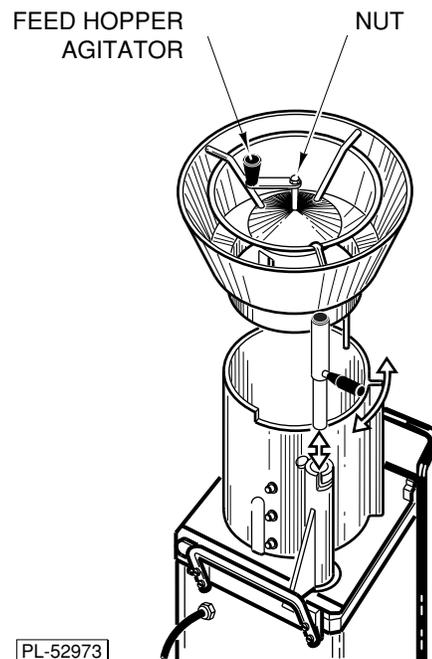

Fig. 14
1. If the feed hopper attachment is installed, the nut (Fig. 14) securing the feed hopper agitator may be removed (left-hand thread) with the wrench provided so that the agitator can be cleaned.